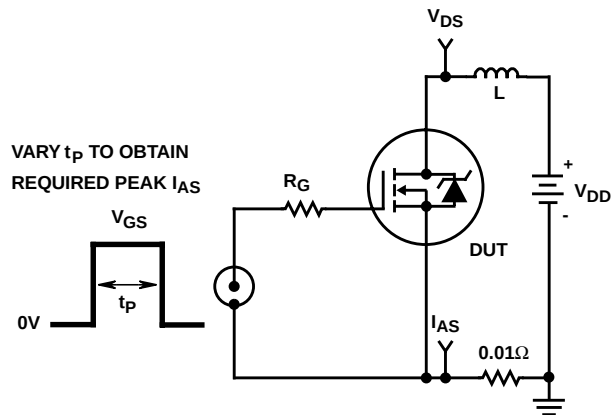

FIGURE 15. UNCLAMPED ENERGY TEST CIRCUIT
- $V_{DD} = 25\text{V}$, starting $T_J = 25^{\circ}\text{C}$, $L = 440\mu\text{H}$, $R_G = 25\Omega$, peak $I_{AS} = 28\text{A}$. (Figures 15, 16).